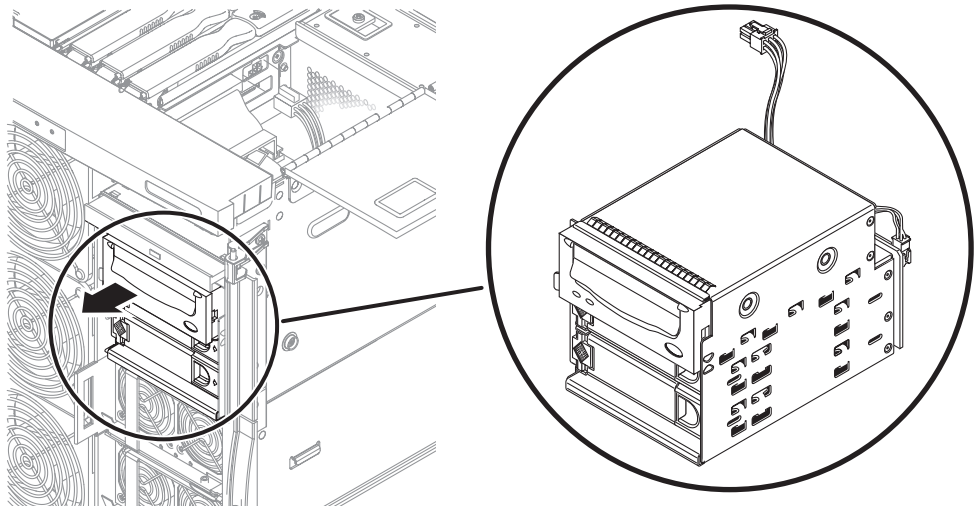

FIGURE 6-9 Removing the Removable Media Module
13. Remove the removable media module. Make sure the connectors and cables do not catch on anything (FIGURE 6-9).